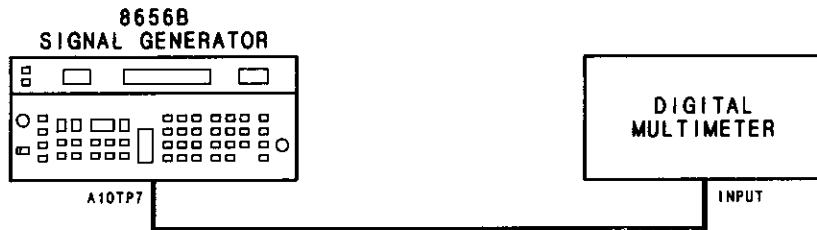

Figure 5-24. DC FM Offset Adjustment Setup
4. Connect the digital multimeter to A10TP7 pin 8 as shown in Figure 5-24.